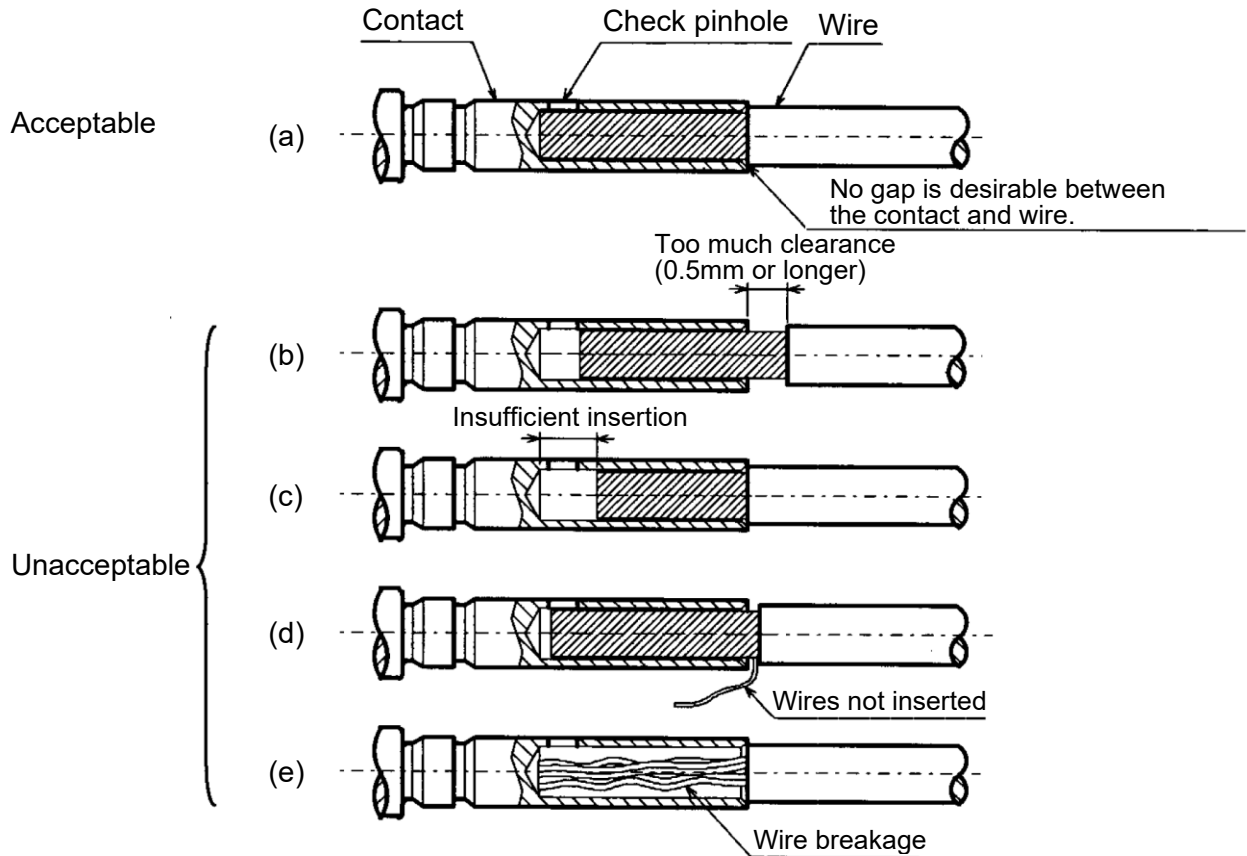

Figure 11. Wire Insertion
- (1) “L” length is a recommended dimension. Use an appropriate length according to wire type and wire insertion condition (Figure 11).
- (2) Ensure not to damage or lose the individual wires while stripping. Keep the stranded wires from loosening.
- (3) For jackets which are difficult to remove, part of the jackets may stick to the conductor. Remove any jacket fragments from the conductor.
- (4) Perform crimping or soldering immediately after removal of the jacket before the conductor surface is oxidized.
Insert the bare conductor without the jacket into the contact deeper than the check pinhole on the contact (See Figure 11).
- (a) The wire insertion condition shall not be any of “unacceptable” examples shown in Figure 11.